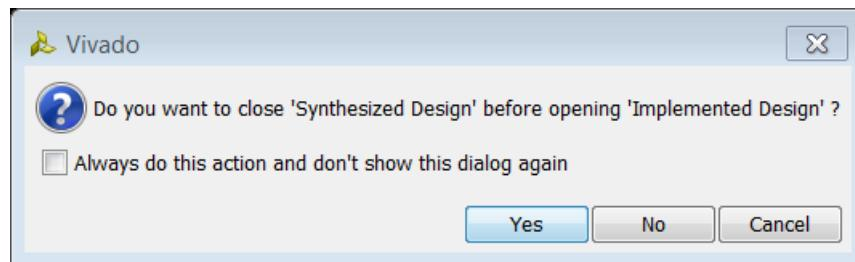

Figure 40: Close Synthesized Design Dialog Box
3. You can keep the synthesized design open if you wish to debug more signals; otherwise close the synthesized design to save memory (Figure 40).